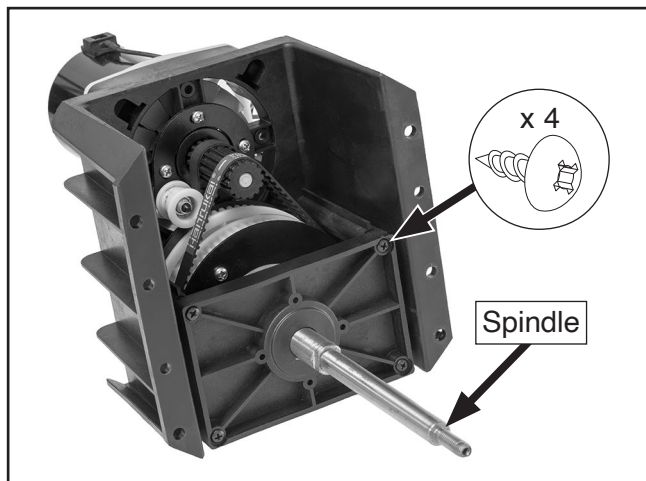

Figure 45. Location of spindle and spindle assembly screws.
7. Remove (4) screws shown in **Figure 45**, then carefully pull spindle away from motor. Spindle pulleys and drive belts will disengage from motor pulley.